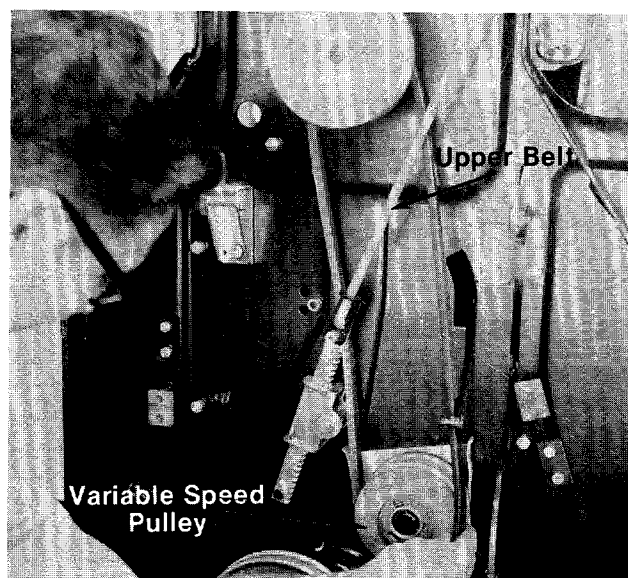

FIGURE 34.
11. Slide the movable center section of the variable speed pulley away from the rider and remove the upper belt from the variable speed pulley. See figure 34.